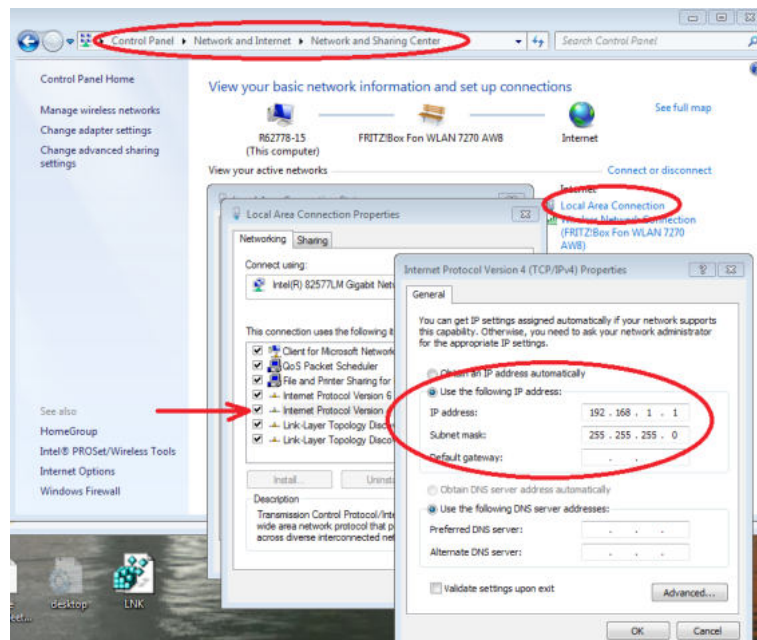

Figure 11: Computer configuration for a direct connection to the device.
- Open Control Panel → Network and Internet → LAN-Connection → Properties (fig. 11).